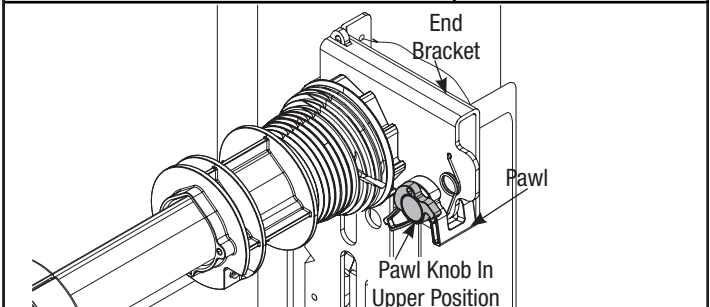

FIG. 1.3
STEP 2: If there is spring tension and starting with the right hand side, ensure ratchet pawl knob is in upper position, as shown in **Fig. 1.3**.
IMPORTANT! PAWL KNOB MUST BE IN UPPER POSITION TO REMOVE SPRING TENSION, AS SHOWN IN **FIG. 1.3**.